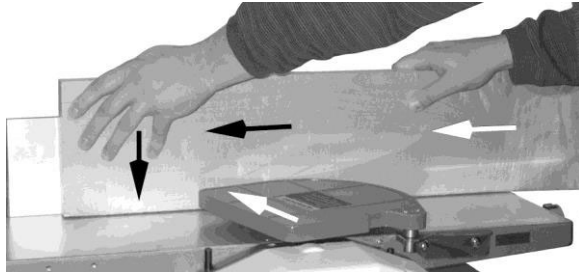

Figure 11-5
Jointing (or edging) is the process of creating a finished, flat *edge surface* that is suitable for joinery or finishing (Figure 11-5). It is also a necessary step prior to ripping stock to width on a table saw.
4. Hold the stock firmly against the fence and table, feed the stock slowly and evenly over the cutterhead, as shown in Figure 11-5.